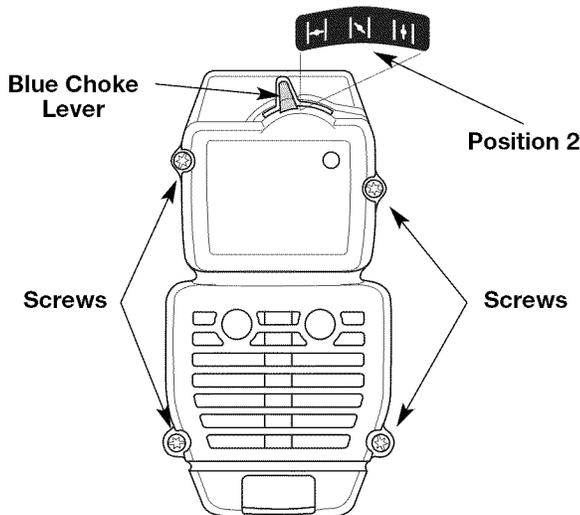

Fig. 17
2. Remove the four (4) screws securing the air filter/muffler cover (Fig. 17). Use a T-20 Torx bit screwdriver.
2. Insert the four (4) screws into the holes in the air filter/muffler cover (Fig. 17) and tighten.